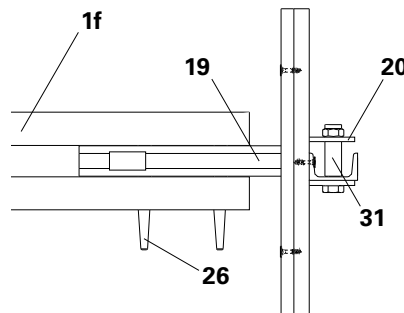

Fig. B2.02a
6. Bolt Angle Connector RCS/SRU (19) onto the Steel Waler SRU U120 (1f) using 1x fitting pin \varnothing 21 mm (26). (Fig. B2.02a)
7. Attach Guardrail Post RCS/SRU 184 (20) to the Angle Connector RCS/SRU (19) with Spacer RCS 184 (31) and the two Bolts M20. (Fig. B2.02a)